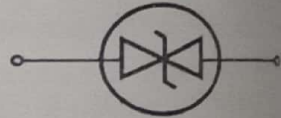

Fig. Q.17.1 Varistor symbol
- The Fig. Q.17.1 shows the symbol of varistor which is similar to two back to back connected zener diodes. In both the directions, its breakdown voltage is very high which ranges from 10 V to 1000 V. The peak transient current capacity of varistor is hundreds or thousands of amperes.